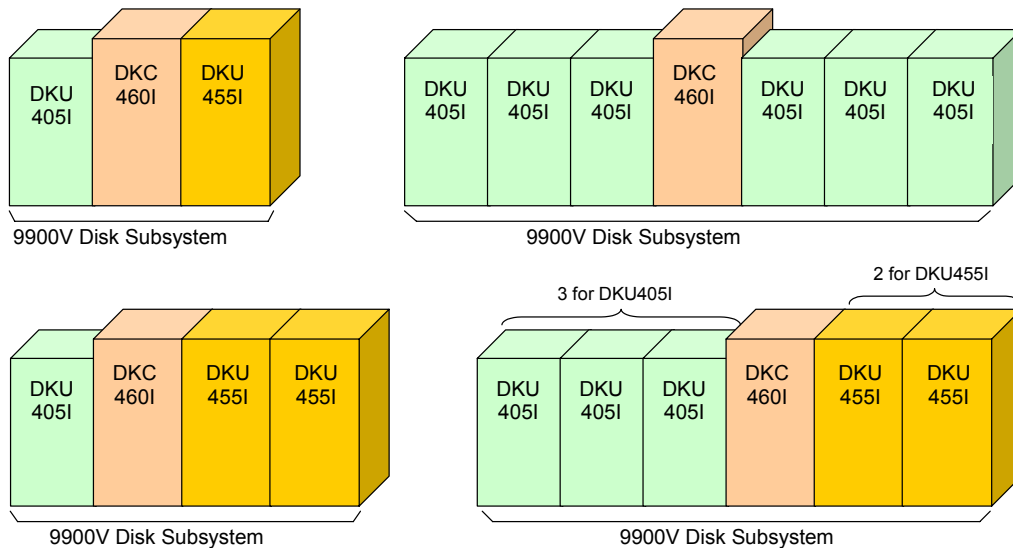

Figure 5.14 Acceptable 9900-9980V Intermix Configurations
- The DKUs on each side of the DKC460I must be the same type (see Figure 5.14).
- The maximum number of DKU455I units on each side of a DKC460I is 2. The maximum number of DKU405I units on each side of a DKC460I is 3 (see Figure 5.14).